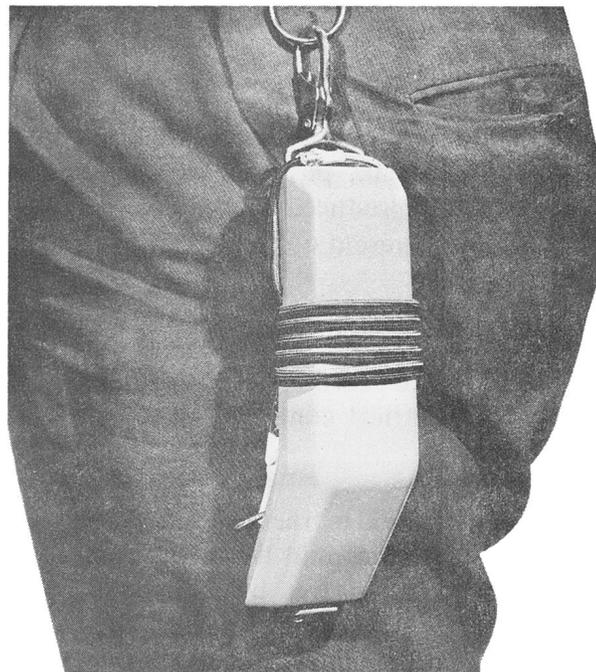

Fig. 6 – Wearing of Handset on Tool Belts
- 2.09 All handsets are equipped with a snap hook to allow the handset to be carried on a tool belt. The hook is positioned in such a manner as to allow the handset to hang and follow the contour of the body, thus affording protection to the face of the handset as shown in Fig. 6.